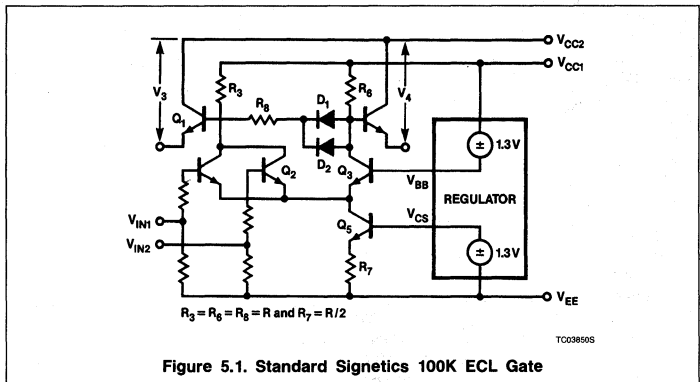

Figure 5.1. Standard Signetics 100K ECL Gate
Figure 5.1 shows a standard 100K gate. Note that the 100K gate is similar to a 10K gate, the essential differences occurring in the voltage and temperature compensation networks.
Additional temperature compensation at the gate outputs is achieved by adding a current-controlling network (R_8, D_1, D_2) between the collectors of Q_2 and Q_3 and by a regulator that generates a constant 1.3V control voltage for the current source, V_{CS} , regardless of variations in V_{EE} or temperature. R_7 and the V_{BE} of Q_5 (Figure 5.1) are designed so that when current, I , is passing through the gate, (R_7) (I) + $V_{BE} Q_5$ will be equal to 1.3V. When $V_{IN} = V_{BB} = -1.3\text{V}$, current is divided equally between the differential pair formed by Q_2 and Q_3 , R_8 is cut off, and the two output voltages are equal: $V_3 = V_4 = (R_3 / (1/2) + V_{BE} Q_1)$. By design $V_{BE} Q_1 = V_{BE} Q_5$,